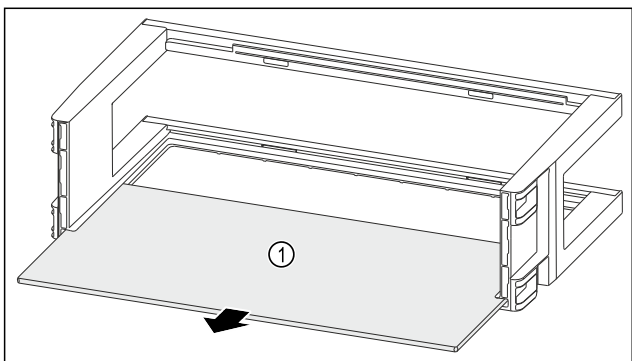

Fig. 109
- ▶ Remove the shelf Fig. 109 (1).